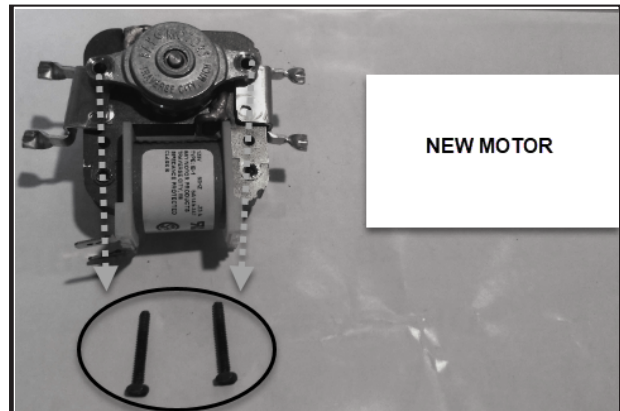

Figure 4
6. Take the new motor and remove the bearing block screws. See *Figure 4*.